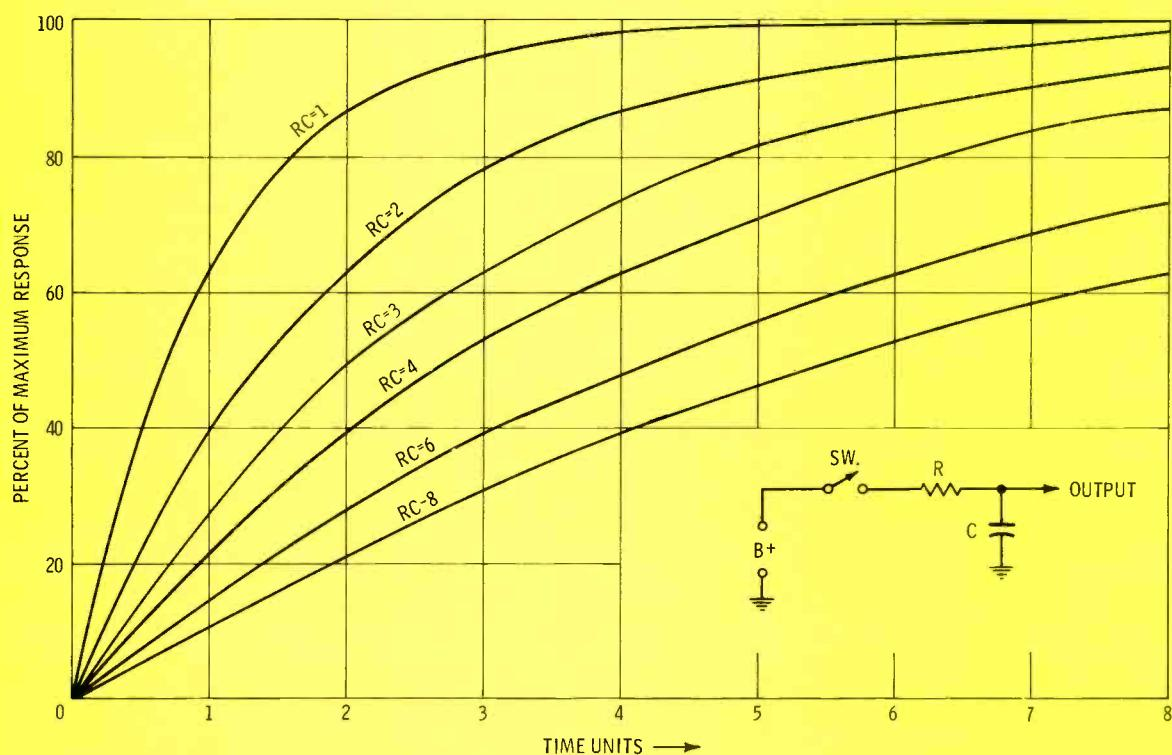
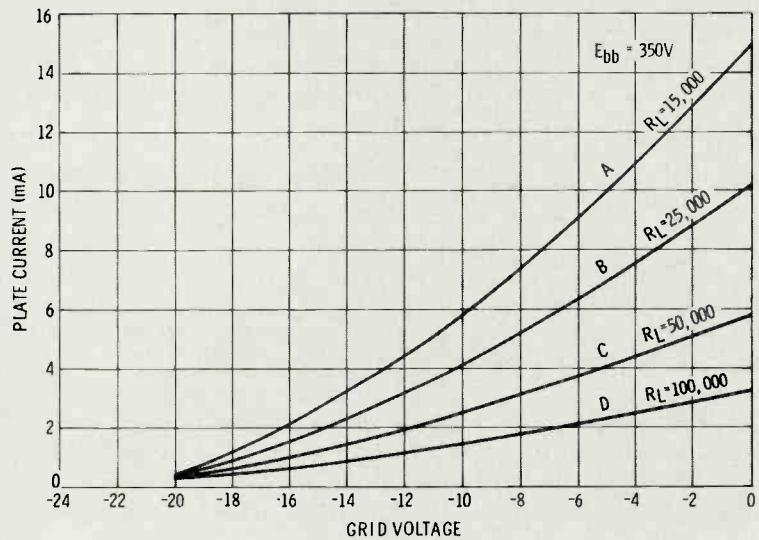

Fig. 2 Integrator waveforms for various time constants.
Fig. 3 Dynamic transfer characteristics for different loads.
We know that an RC integrator circuit always produces an exponential waveform, as shown in Fig. 2. The curvature in the rise of the waveform can be reduced by using a longer time constant. On the other hand, there is a practical limit to this method of linearization, because
To linearize this semi-sawtooth waveform, a vertical-output stage commonly is utilized to introduce an equal and opposite curvature into the waveform. A triode tube in the output stage is suitable for this purpose when it is operated at a certain value of grid-bias voltage. Fig. 3 shows the principle that is involved. If we compare curves A through D of Fig. 3 with the curves
depicted in Fig. 2, we observe that the curvatures are opposite throughout. We also note that the amount of curvature in a dynamic transfer characteristic depends upon the value of the plate load. It also is important to recognize that the curves become more nearly linear as grid voltage (V) approaches zero volts.
Now, let us see how these facts are put to practical use. First, we see that the curve labeled "RC=6" in Fig. 2 has approximately the same amount of curvature as curve A in Fig. 3. Therefore, we might suppose that if the exponential waveform (RC=6) were passed through an output tube that has the dynamic transfer characteristic of curve A, a linear sawtooth wave-
Adjustment of grid bias on the vertical-output tube is provided by the vertical-linearity control. Although bias adjustment can compensate for component tolerances up to a certain point, various defects can defeat the purpose of the vertical-linearity control. Observe in Fig. 2 that the generated waveform becomes excessively curved when the time constant is short. From a practical standpoint, the time constant becomes shorter when the integrating capacitor becomes leaky. Again, observe in Fig. 3 that the extent of waveshaping action depends on the value of the vertical-output load. If a defect develops in the load, or if an incorrect replacement is made, the waveshaping action will become such that satisfactory adjustment of the vertical linearity control is impossible.
We know that the vertical-height control adjusts the plate voltage on the vertical-oscillator tube. In turn, this control varies the amplitude of the oscillator output waveform. If we increase the amplitude of this waveform, we drive the output tube harder, and we use a greater grid-voltage swing in Fig. 3. As noted previously, the transfer characteristic becomes more nearly linear as the grid bias approaches zero volts. In other words, by changing the amplitude of the drive waveform, we are also changing the amount of corrective curvature that is applied. Thus, it is inevitable that the height and linearity controls interact.